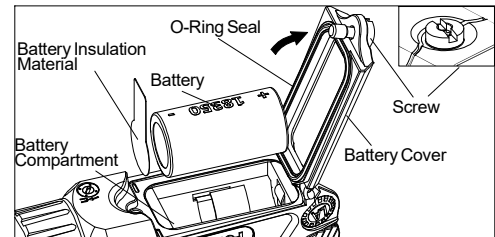

Fig 2
- 1) Use the included the T10 Torx tool to unscrew battery cover screw until the battery cover can be opened as shown in Fig 2.
- 4) Install the battery as marked on the battery compartment floor with the ribbon under the battery cell to help with future battery removal. (See Fig 2).